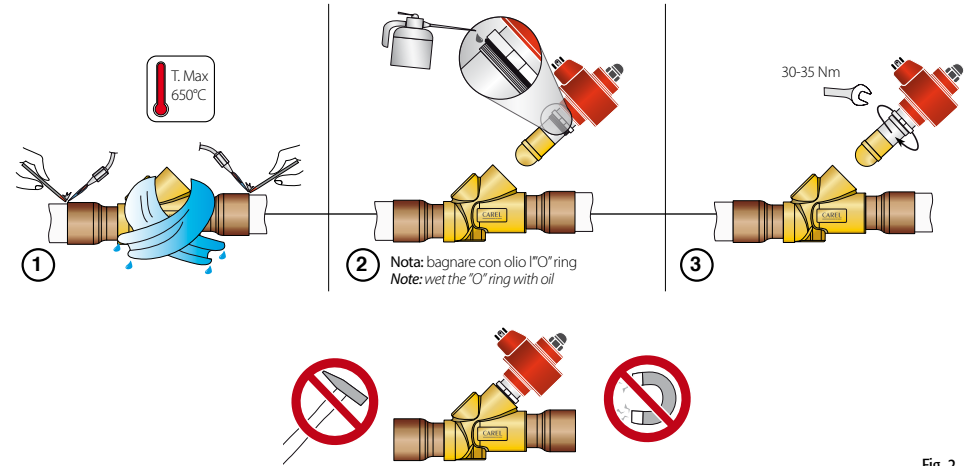

Fig. 2
Le valvole E⁵V devono essere saldate al circuito mediante brasatura dei raccordi in rame ai tubi di uscita dal ricevitore e di ingresso dei compressori di alta pressione. Seguire la successione indicata in Fig. 2 procedendo in questo modo:
The E⁵V valves must be joined to the circuit by braze welding the copper fittings to the receiver and the compressor high pressure inlet. Proceed as indicated in Fig. 2.
5. Make sure that the red stator is fully inserted on the cartridge with the black nut screwed on tightly until deforming the rubber ring on the stator (tightening torque 0,5 Nm). (Fig. 2 D);